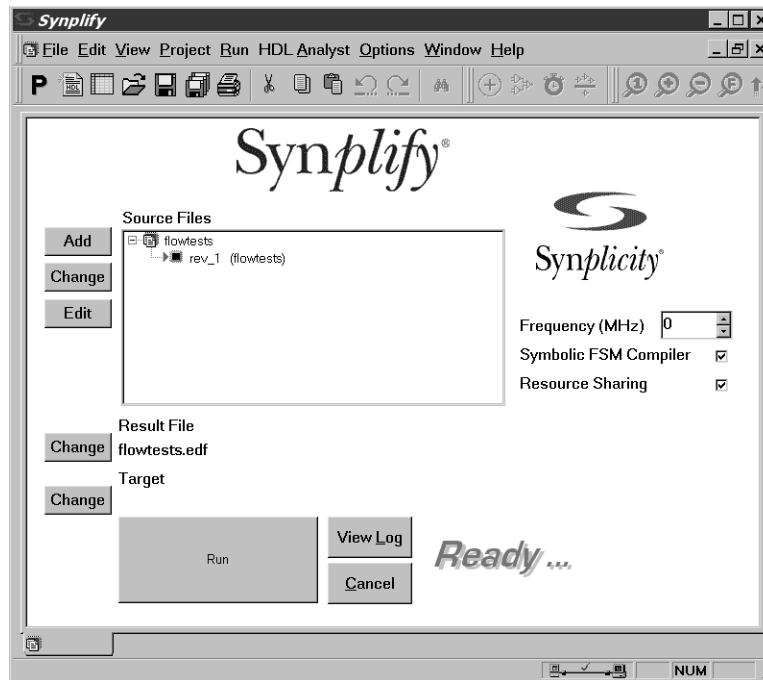

Figure 5-10: Main Project Window
- Click OK to exit the dialog and return to the project window (Figure 5-10).